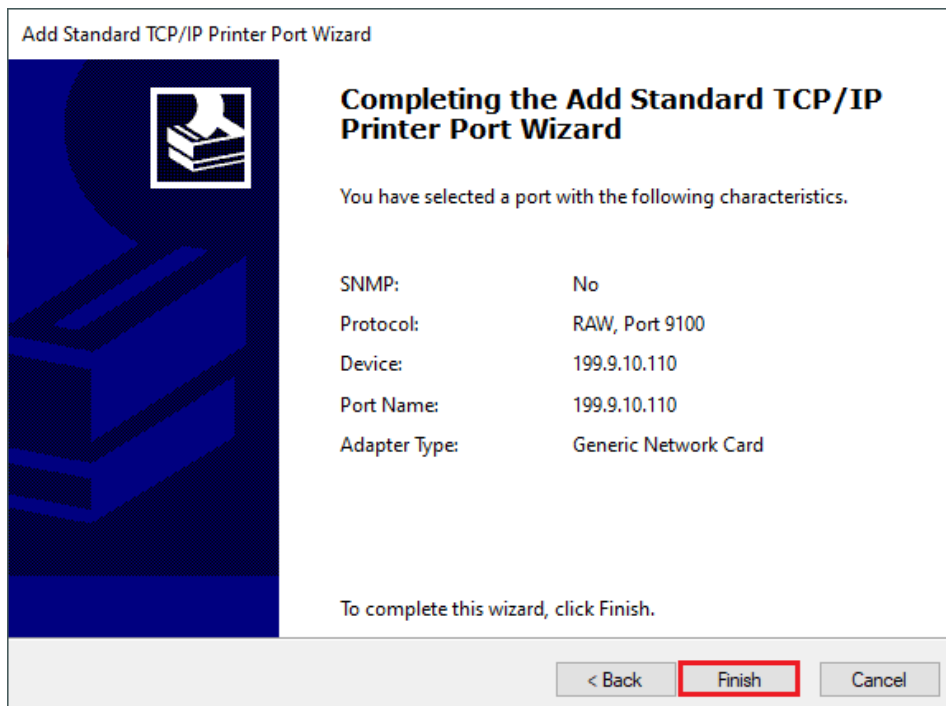

Figure 2-33 Complete adding Standard TCP/IP Printer Port
- 8. Windows will automatically detect the TCP/IP port. Click “Finish” to complete adding Standard TCP/IP Printer Port, as shown in Figure 2-33.